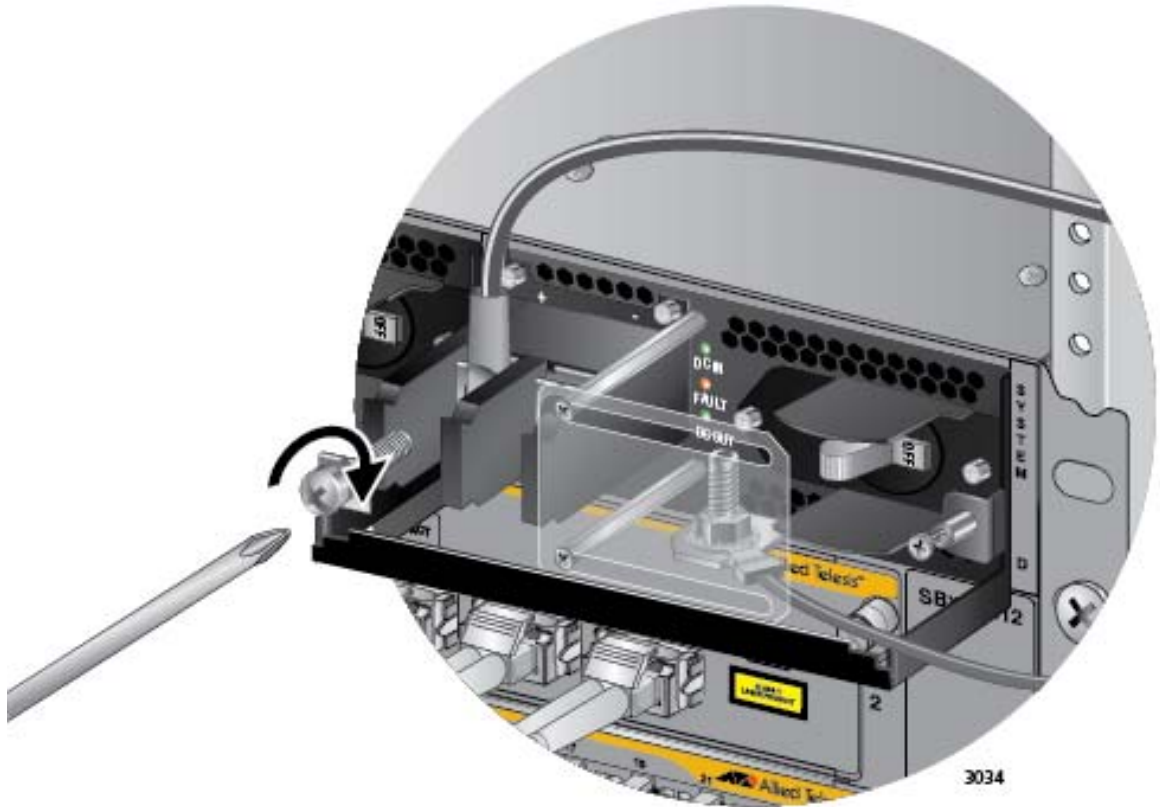

Figure 121. Connecting the Positive (+) Power Wire with a Straight Terminal
6. With a #3 Phillips-head screwdriver, connect the positive (+) power lead wire to the positive terminal on the power supply, with one of the terminal screws removed in the previous step. The positive terminal is on the left. You may attach the terminals with the wires either above or below the terminal block. Figure 121 on page 183 shows the positive wire above the terminal block.